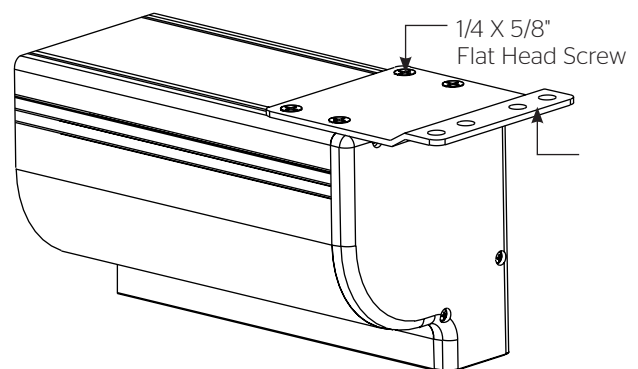

Figure 3
2. Using a #2 Phillips screwdriver, loosen the four 1/4"x 5/8" screws holding the ceiling flush mount brackets (Figure 3).
4. Tighten the four 1/4"x 5/8" screws holding the ceiling flush mount brackets (Figure 3).
2. Remove the ceiling flush mount brackets using a #2 Phillips screwdriver (Figure 3). Retain four 1/4"x 5/8" screws.